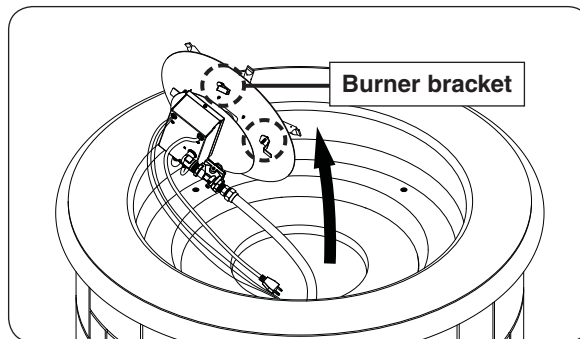

Fig. 44-1 Remove burner assy
1. Use a $\frac{5}{16}$ " nut driver to partially unfasten the four screws found on the burner assembly. Then remove the burner and set it off to the side. See Fig. 44-1.